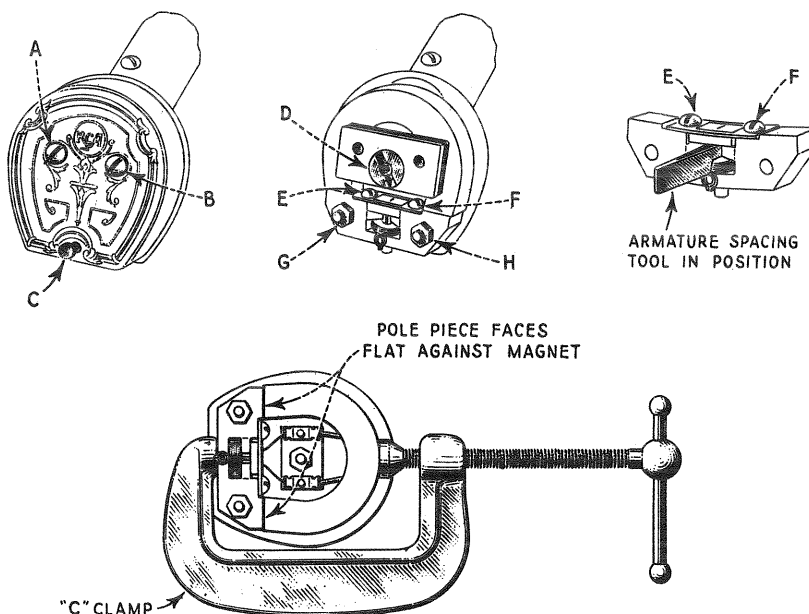

Figure 8—Phonograph pick-up showing various adjustments
- (a) Remove screws A, B and C (See Figure 8) from the pick-up, and remove the cover thereby released.
- (b) Remove the nut "D" (See Figure 8) that holds the magnet bracket and fibre spacers. Mark the magnet poles and the pole pieces so that when they are replaced they will be in their original position. The magnet is now free to be released. Place a keeper such as a large nail across the magnet poles and remove it from the pole pieces.
- (c) Unsolder the leads to the coil at the terminal strip inside of the pick-up case. Remove nuts G and H, Figure 8, and release the pole pieces from the back support. Now remove screws E and F and disassemble the pole pieces, armature and coil. The old rubber should be completely removed from all parts and the parts should be scraped clean with a knife.
- (d) Place the new rubber pivot supports in their proper place. This may be either tubing or strips. Re-assemble the pole pieces and coil and new rubber damping block in place with feeler gauge in place as shown in Figure 8. Hold together as tight as possible. Tighten screws E and F. Now remove tool. Be sure the cambric cover is in place between the coil and pole pieces.
- (e) Place the assembled mechanism against the magnet, making sure the poles are against the proper pole pieces, and replace assembly on tone arm correctly. Put on the nuts G and H, but do not tighten. Place the magnet bracket and fibre spacers in place and tighten in their correct position. Now with 2-inch "C" clamp tighten the pole pieces as shown in Figure 8 until the faces of the pole pieces are flat against the magnet pole. Now tighten nuts G and H. The pick-up is now re-assembled and the cover may be replaced and the Radiola returned to normal operation. If the cover does not fit properly it may be necessary to relocate the position of the magnet clamp.